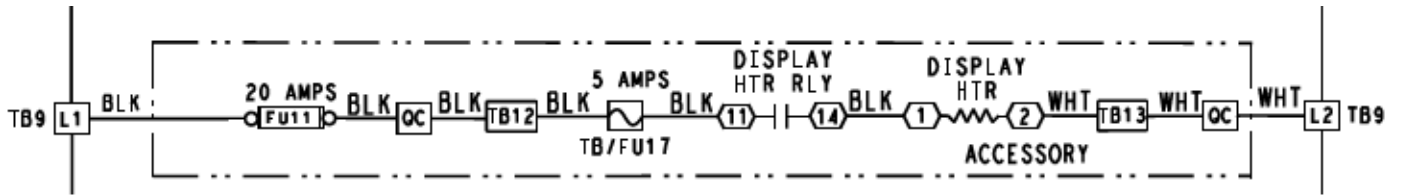

Fig. 9 — Carrier Controller Display Heater Accessory Power Wiring Diagram 30XV140-325
17. Once power is restored to the unit and before starting the unit, use the Carrier Controller to navigate to the Quick Test Menu (select MAIN MENU  then QUICK TEST TABLE ). Once on the Quick Test Menu, first ENABLE quick test by changing QUICK TEST ENABLE from the default of DISABLE to ENABLE and select the SAVE BUTTON . This enables the QUICK TEST and allows the user to confirm that the Display Heater is working properly. Scroll to the last screen in the QUICK TEST MENU by selecting the arrow . Once on the last screen locate the Control Box Heater ON/OFF radio buttons and select the ON button. Confirm that there is voltage (120V) across the terminals of the display heater (terminals 1 and 2 as shown in Fig. 9 and 10). If 120V is verified across the terminals of the display heater, select the OFF radio button on the Carrier Controller. After selecting the OFF button, confirm that 120V is no longer present across the terminals of the display heater. Once this is confirmed, return to the QUICK TEST ENABLE in the menu and DISABLE the quick test by changing ENABLE to DISABLE and selecting the SAVE BUTTON .